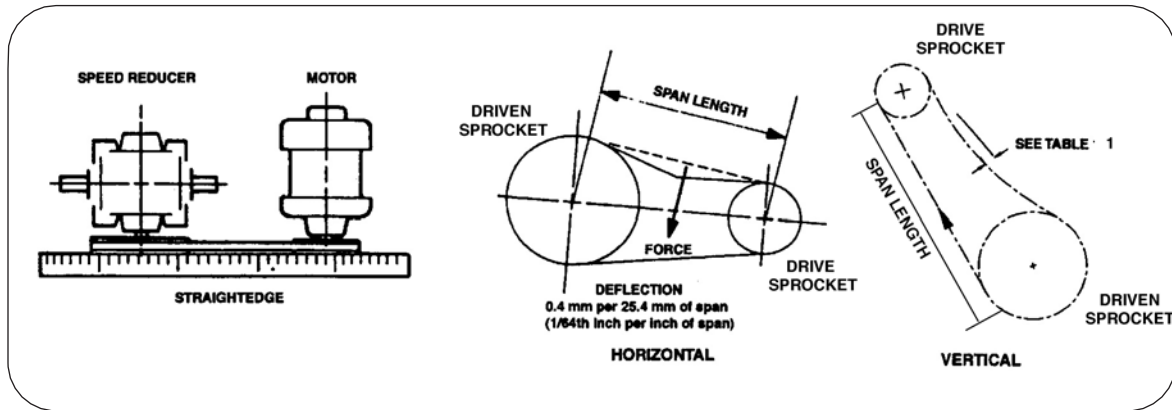

Figure 3. Reducer/Motor Alignment and Tension Adjustment
1. Check sprocket alignment using a straight edge or taut cord stretched across the faces of the drive sprocket and the driven sprocket (Figure 3). The tolerance is ± 0.5 degrees or $1/8$ " per foot (3.5 mm per 0.3 m).
3. Check roller chain tension. Deflection of the span should be as shown in Figure 3 and Table 1.
1. Check the sheave alignment between the motor and speed reducer by placing a straight edge or taut cord across the face of the sheave faces (Figure 3). Inside and outside sheave diameters should be touching the straight edge at all four points as shown in the illustration. Alignment of the sheaves should be within ± 0.5 degrees or $1/8$ " per foot (3mm per 0.3 m).
- Measure the span length as shown in Figure 3.
- Check belt tension by pressing firmly on the individual belt. A belt that can be depressed an amount equal to $1/64$ th inch per inch of span (0.4 mm per 25 mm of span) is properly tensioned (Figure 3).
NOTE: The ratchet slip clutch is preset at Jorgensen Conveyors to 1-5/8" (41.3 mm (Figure 3). Do not compress the spring to anything less than 1-1/2" (8.1 mm) because this would disable the clutch.